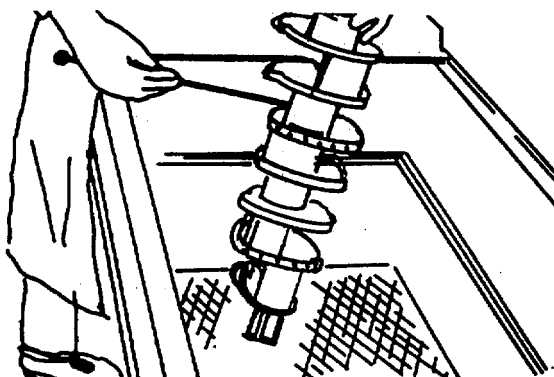

FIGURE 4-62. Cleaning Oil Drillings.
- a. Clean the crankshaft oil drillings with a nylon brush as shown in FIGURE 4-62.